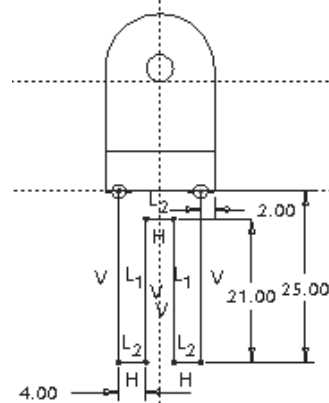

Figure 4-66 Sketch with dimensions and constraints of the third feature
5. Sketch the section for the third feature of the model and add constraints and dimensions to the sketch, as shown in Figure 4-66.